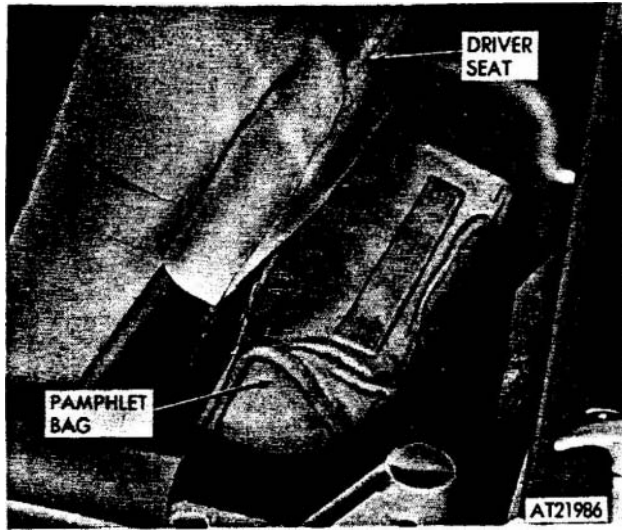

Figure 2-334. Vehicle pamphlet bag removal and installation.
(1) Slide seat forward on adjusting rails to obtain clearance to pamphlet bag (fig 2-334).
(2) Unsnap bottom of bag from seat and lift bag from upper brackets.
(1) Position top of pamphlet bag into brackets and snap lower end of bag to studs on seat shell (fig 2-334).
(2) Adjust seat as necessary.